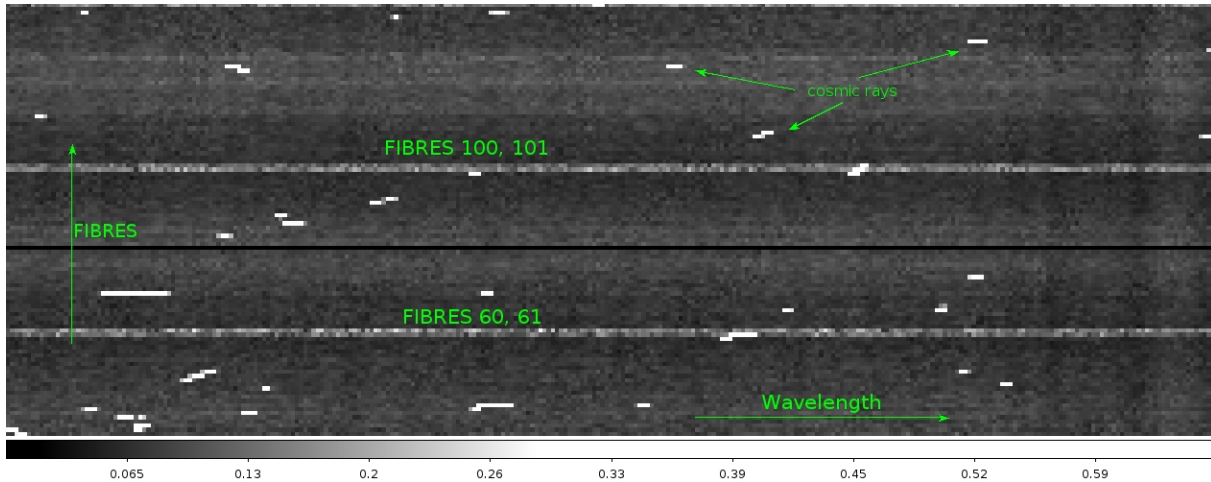

Figure 8.2: Example of 2D spectra where the marked fibres (60-61, and 100-101) are properly identified.
- A defined set of fibres has intentionally null transmission in each quadrant. This help the cross-correlation in the fibre identification process. These dead fibres are 20-21, 60-61, 100-101 and so on, i.e. two fibres each 40. By inspecting the 2D reduced spectrum `SCIENCE_FLUX_REDUCED.fits` it is possible to see whether the "dead fibres" are placed in the correct positions (see Figure 8.2).